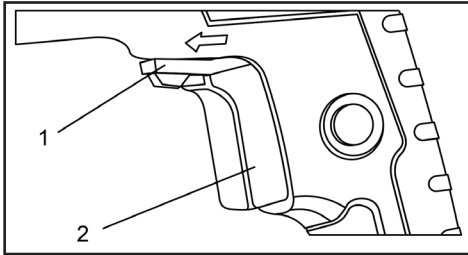

Fig.1
The forward/reverse switch (1) is conveniently mounted in front of the trigger switch (2) (Fig. 1). To make the drill rotate clockwise for drilling, push the forward/reverse switch to the right. To make the drill rotate counter-clockwise, push the forward/reverse switch to the left.